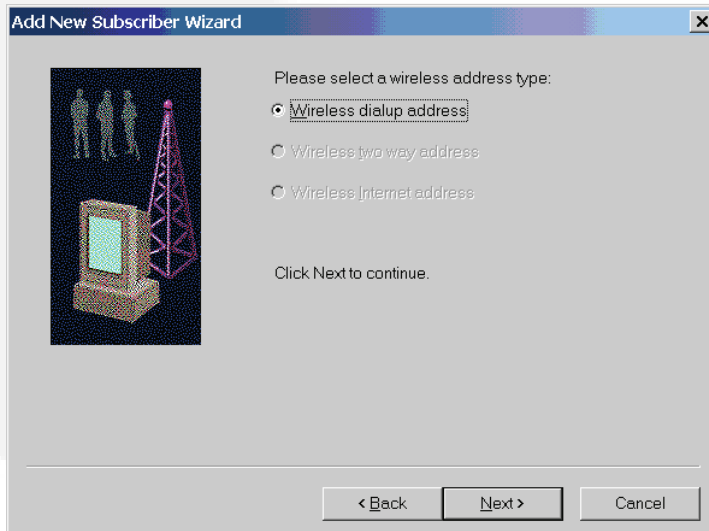

FIGURE 15-19. ADDRESS TYPE
2. Select the **Wireless dialup address** button. Then click on the **Next** button. Figure 15-19.